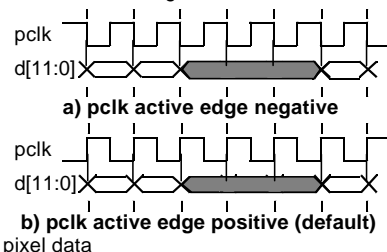

Figure 35. *pclock* in Free Running Mode
- In free running mode the pixel clock output pin, *pclock*, is always running with a fixed period. Pixel data appearing on the digital video bus $d[11:0]$ are synchronized to a specified active edge of the clock as shown in Figure 35.